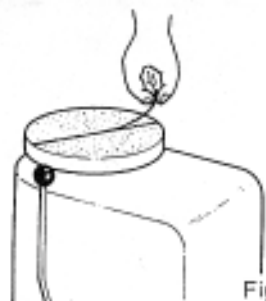

Fig. 5
4. Pull off string running across middle of wheel head and peel off plastic coating. (Fig. 5)